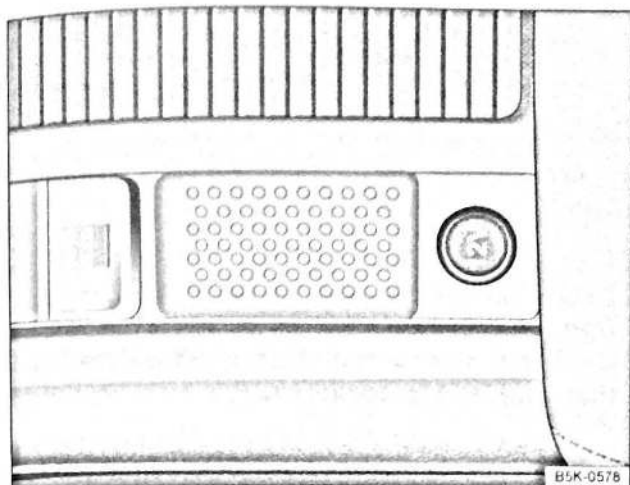

Fig. 124 In the rear section of the centre console: 12-volt socket
- Under a cover in the lower section of the centre console ⇒ Fig. 124.